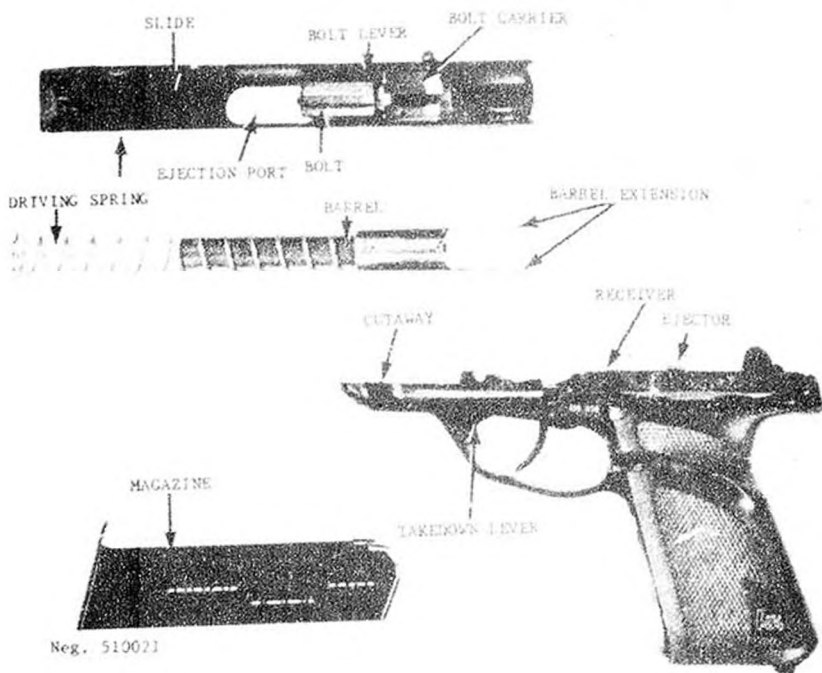

Figure 22. P9 disassembled.
c. Normally no further disassembly is required; however, if desired, the bolt (fig 22) can be removed from the slide. To do so,
insert one of the barrel extensions into the slide, just forward of the bolt carrier (fig 22), and press the barrel down to release the bolt lever (fig 22). Press the bolt forward, off the bolt carrier. No further disassembly should be attempted.
d. To reassemble the pistol, place the bolt (if disassembled) into the slide with its extractor or rounded side toward the ejection port (fig 22) and start it onto the bolt carrier. Use the barrel extension to depress the bolt lever and push the bolt fully onto the bolt carrier. Remove the barrel extension and push the bolt forward until it clicks into place.
e. Insert the barrel and driving spring into the slide (driving spring first) and insure that the spring is seated in its recess around the inner front of the slide. Rotate the barrel so that its rounded side is toward the ejection port (fig 22); then press the barrel forward into the slide, against the force of the driving spring, until the barrel seats into the slide. Ease the barrel rearward so that the extensions fit alongside the bolt.
f. Place the slide on the receiver so that the indentations in the slide are aligned with the cutaways (fig 22) in the receiver. Press the slide down on the receiver, then pull the slide rearward and release it. Clear the pistol as described in paragraph 33g.
continues and, when the rollers are fully into the bolt, the bolt and slide are then unlocked from the barrel and can move rearward. The bolt lever snaps into the bolt and holds the bolt forward in its unlocked position. The delay occasioned by the rollers' retraction allows gas pressure to drop to a safe level. The rearward thrust of the case has given enough momentum to the slide to drive it fully rearward. This rearward movement compresses the driving spring and rocks the hammer back (fig 24). The extractor holds the fired cartridge case against the bolt until the cartridge case strikes the ejector (fig 22); the case is then expelled out through the ejection port. The rearward movement stops when the inside front of the slide strikes the buffer; the driving spring then drives the slide forward. The feed rib on the bolt drives the top cartridge out of the magazine and into the